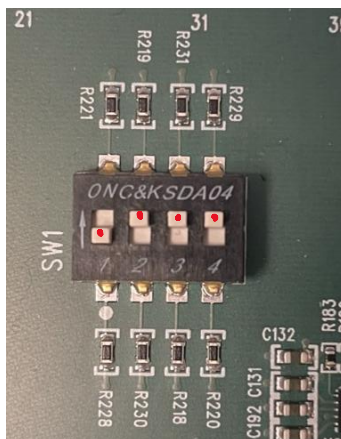

Figure 12: BOOT mode (SW1) set to QSPI.
- 4.2.3.2. Set BOOT Mode to QSPI (0001) (Figure 12).